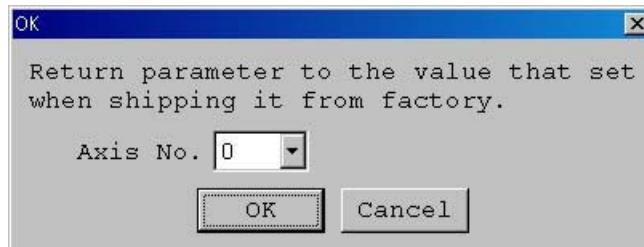

Fig. 16.4 Initialization Dialog Box
- (3) When the menu “Controller Initialization” (factory default setting) displayed in (2) is selected, a dialog box in appendix Fig. 16.4 is displayed. Click **OK** when one axis is connected. Set axis No. and click **OK** when multiple axes are connected.